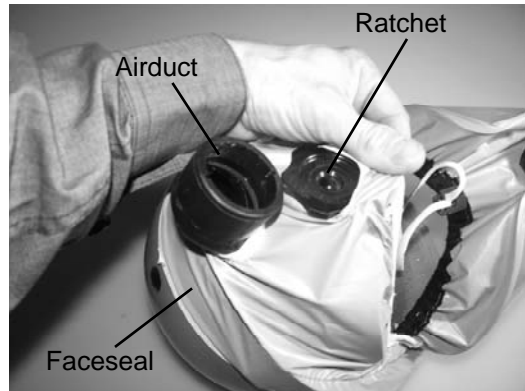

Figure 23
2. Pull the Faceseal over the Airduct and headgear Ratchet (fig. 23)